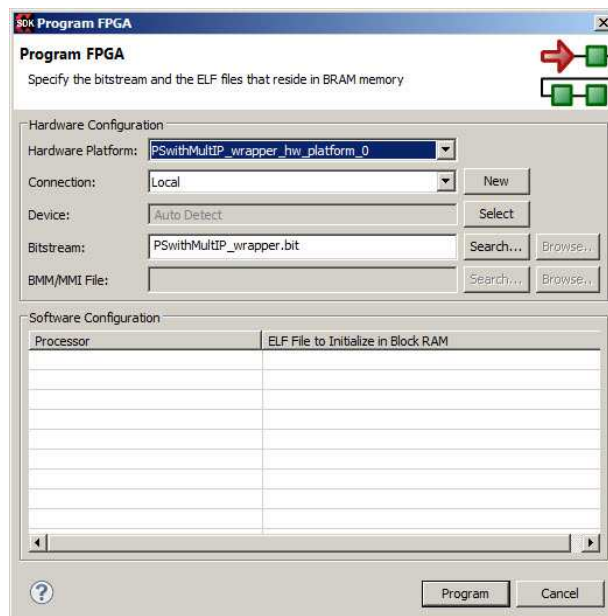

Figure 49: Program FPGA Window
2. A new window will appear (Figure 49)